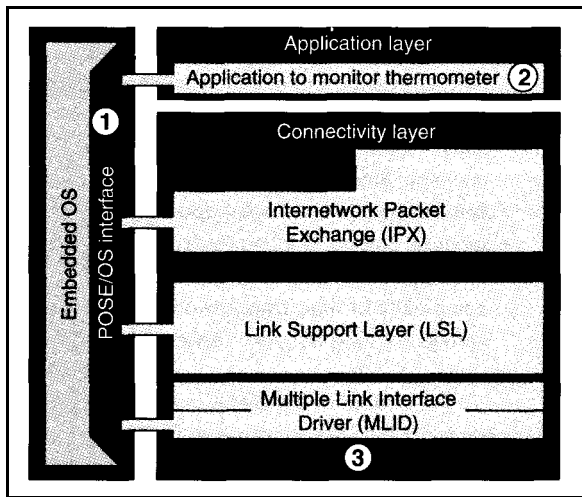

Figure 4: Only certain NEST pieces are needed to create an intelligent thermometer. Those numbered 1-3 may need to be written by the developer.
The intelligent thermometer would be a simple NEST device. The thermometer regularly broadcasts its status and current temperature reading. Figure 4 shows the necessary architectural pieces. Notice that several elements—the NetWare services layer and SPX protocol—are not required. The three pieces the developer has to create are shown in red and labeled 1-3.
For the thermometer, as for any device, a developer might have to create the POSE interface to the chosen embedded operating system (see number 1 in Figure 4). The developer can avoid creating the POSE interface by using FlexOS and its POSE interface provided in the client SDK.
So the thermometer can perform its intended function, the developer creates a simple application (number 2 in Figure 4). The application includes the instructions the thermometer needs for broadcasts. Because the thermometer does not need to confirm its broadcasts are received (i.e., two-way communication), the developer can use the transport APIs to directly call IPX. In other words, the NetWare services layer and the SPX protocol module (part of the connectivity layer) can be omitted.
- modify the existing CHSM or create a new one (see number 3 in Figure 4)